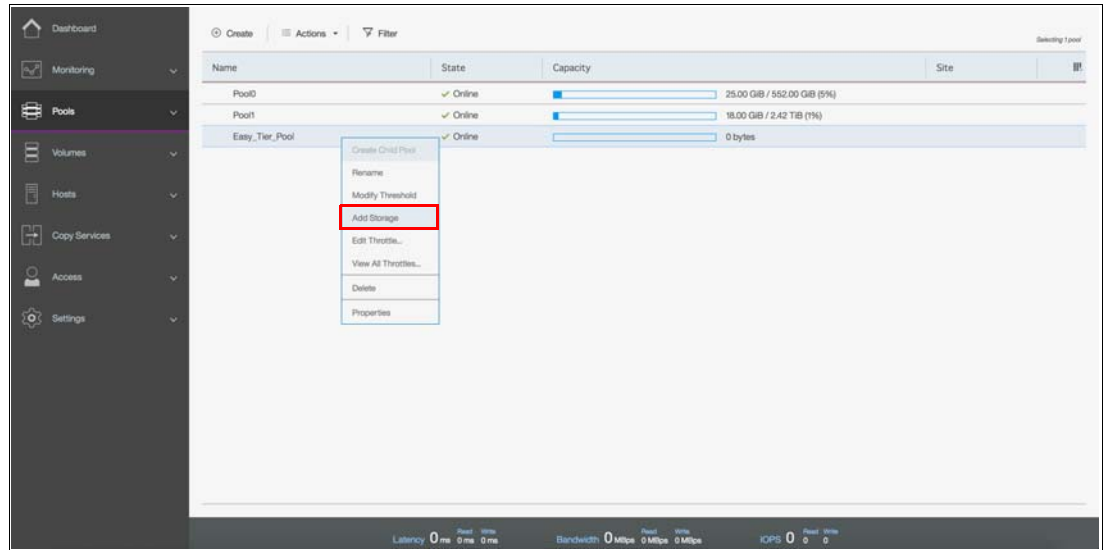

Figure 9-11 Add Storage to a pool
5. To add storage to a pool you can either select the pool and click **Add Storage** from the Actions menu or right-clicking the pool, as shown in Figure 9-11.